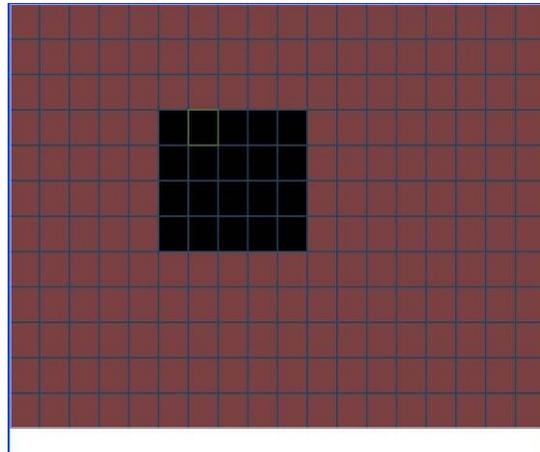

Figure 4-21
- **Region:** Click select button, the interface is shown as in Figure 4-21. Here you can set motion detection zone. There are 396(PAL)/330(NTSC) small zones. The green zone is current cursor position. Grey zone is the motion detection zone. Black zone is the disarmed zone. You can click Fn button to switch between the arm mode and disarm mode. In arm mode, you can click the direction buttons to move the green rectangle to set the motion detection zone. After you completed the setup, please click ENTER button to exit current
In Figure 4-21, you can left click mouse and then drag it to set a region for motion detection.